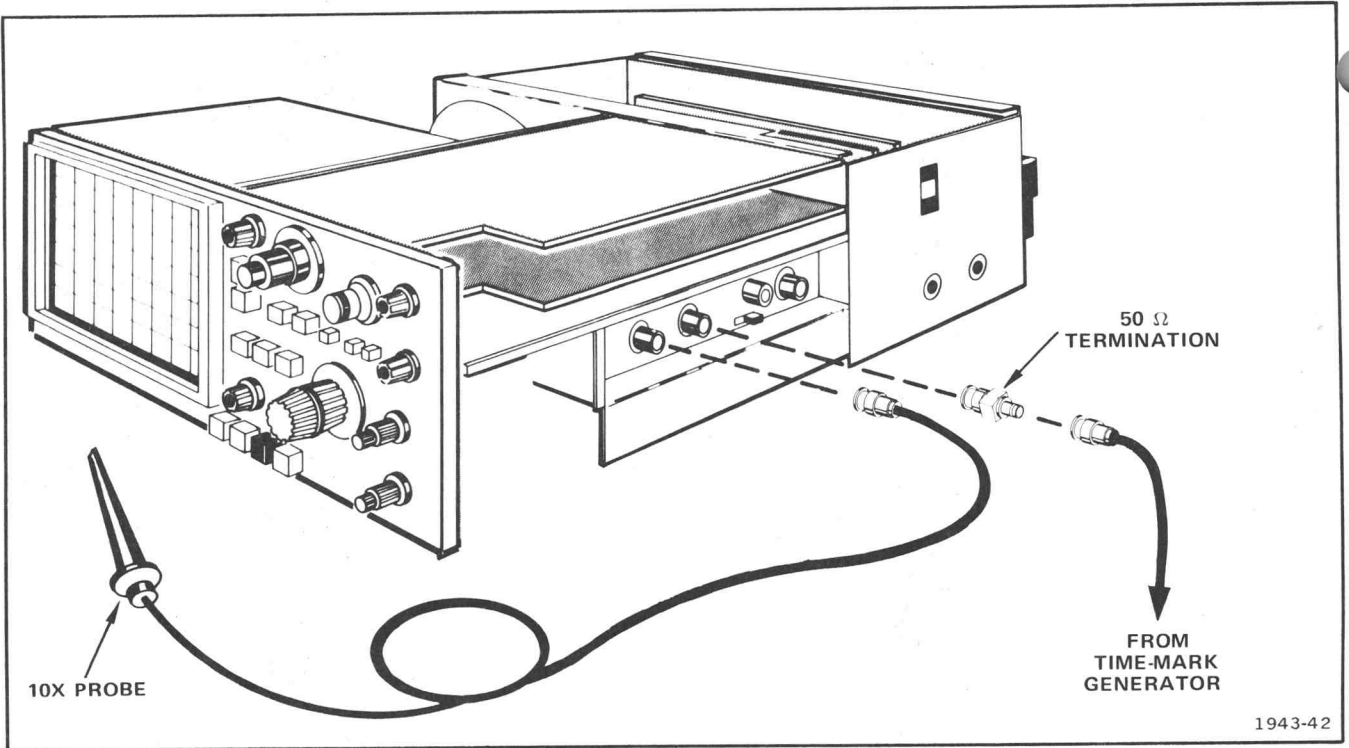

Fig 6-18
- a. Connect test equipment as shown in Fig. 6-18 (probe to 0.5 V CAL OUT).